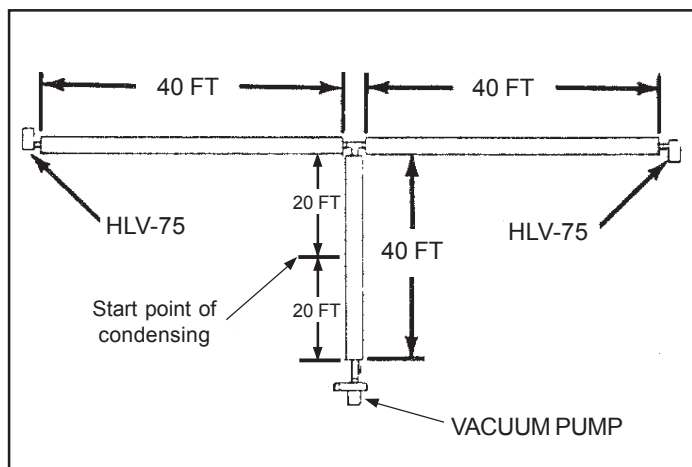

Figure 2-3
**Calculated Starting Point of Condensing Run** – The point in the 'calculated run' where condensing pipe must begin. Refer to figure 2-3 for an example.
In figure 2-3, a model HLV-75 starts its condensing pipe at 50 feet (40 feet plus one-half of 20 feet). The amount of condensing pipe in this particular example is 20 ft.